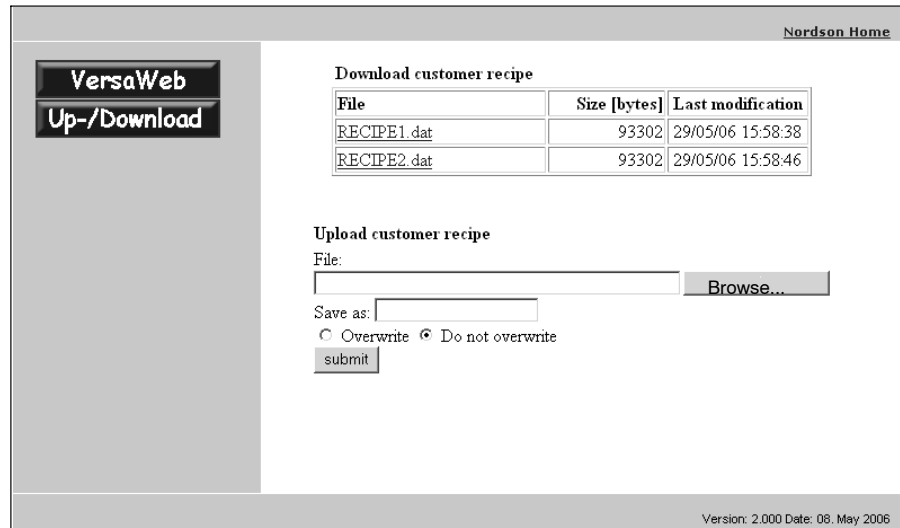

Fig. 4-115
2. All of the recipes are shown under *Download customer recipe*. Click on the desired recipe name and download the recipe (Fig. 4-115).
2. Under *Upload customer recipe*, click on *Browse* and select the desired recipe (Fig. 4-115).